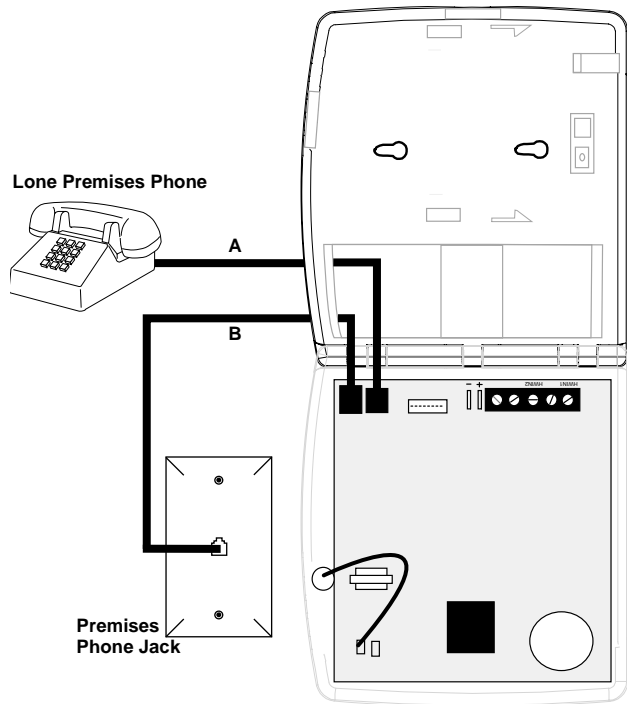

Figure 9. Full Line Seizure Wiring with 1 Premises Phone
1. Disconnect the phone from the premises phone jack and plug it into the panel PHONE jack (A in Figure 9). This jack is disconnected automatically whenever the panel reports.
2. Connect the phone cord included with the panel to the panel LINE IN jack and the premises phone jack (B in Figure 9).